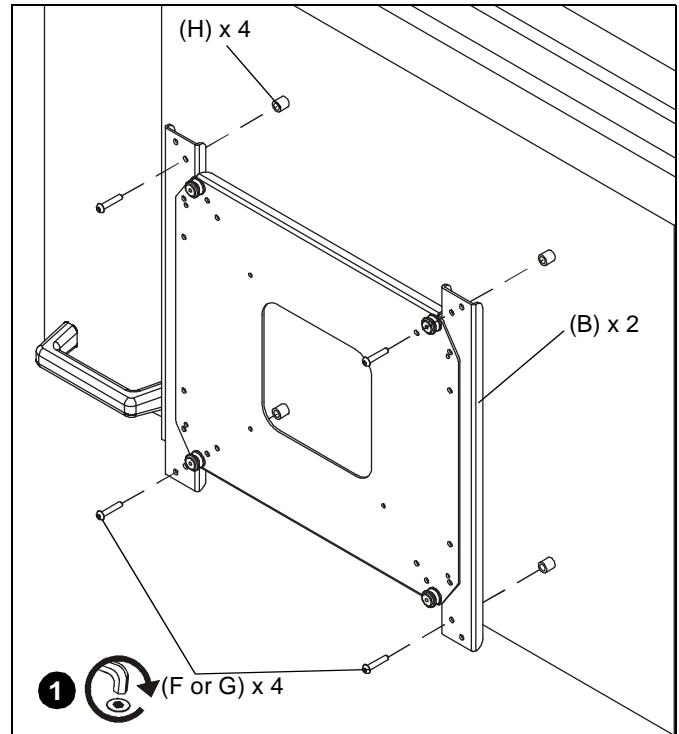

Figure 5
1. Install four M6 x 25mm or M6 x 30mm button head cap screws (F or G) through corresponding holes on vertical brackets (B), spacers (H) and into holes on back of display. (See Figure 5)